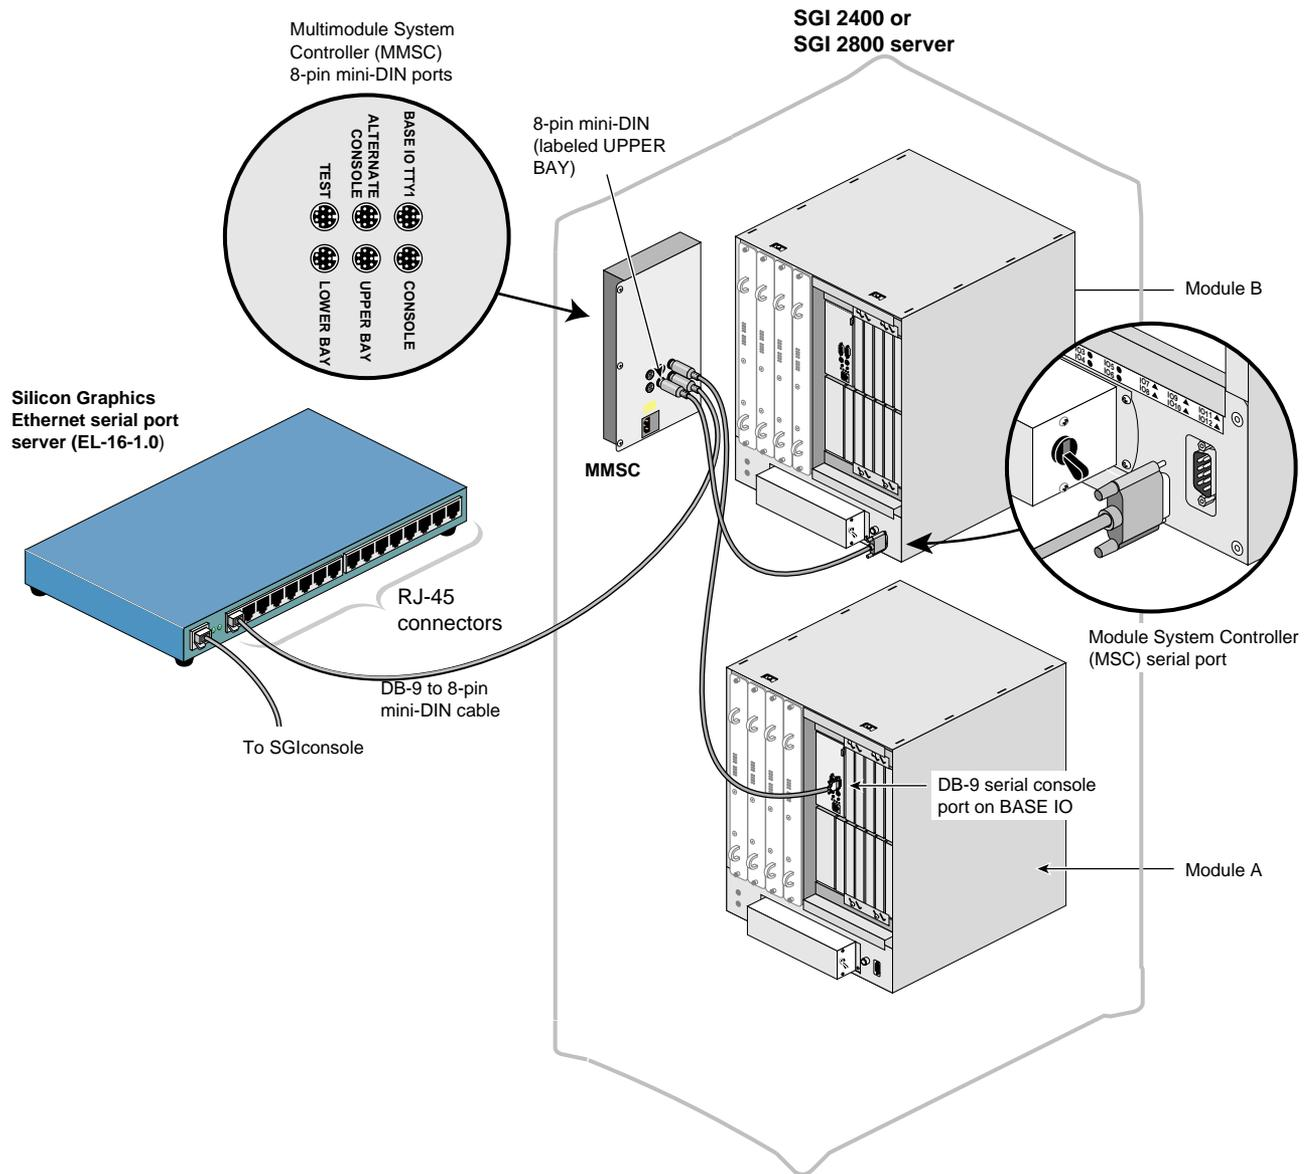

Figure 2-26 Connecting the MMSC Upper Bay Connector to the Module B MSC Serial Port
7. Connect the 8-pin connector of the second 8-pin mini-DIN to DB-9 cable to the MMSC connector labeled "Upper Bay." Connect the DB-9 connector end of the same cable to the Module System Controller (MSC) serial port rear panel connector of the SGI 2400 or SGI 2800 server module B located in the upper bay of the rack. See Figure 2-26.